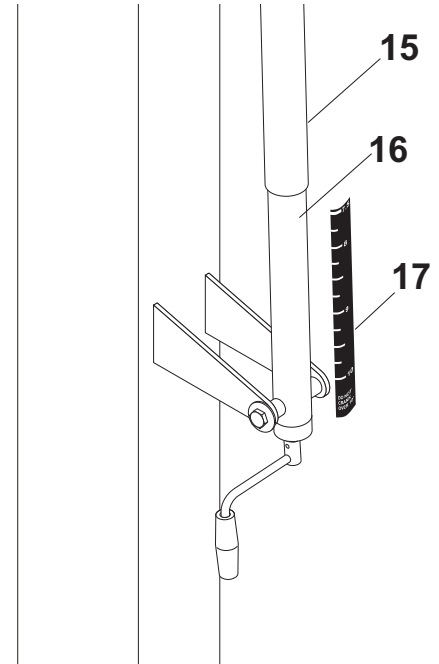

Figure 15
27. Adjust unit to 7-1/2 feet. Use a tape measure to measure from the top of the rim to the playing surface. Stick Height Decal (#17) to back of actuator (#16) with the "7.5" mark aligned with bottom of Actuator Sleeve (#15). See Figure 15.